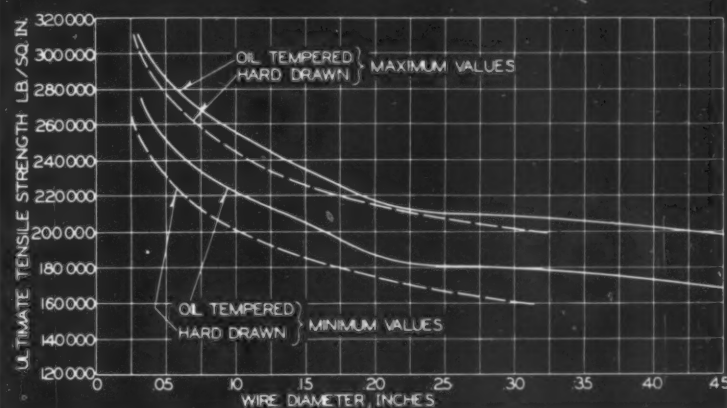

Fig. 2—Ultimate tensile strength for hard-drawn and oil-tempered spring wire
Substituting this value in Equation (5) gives the actual maximum acceleration ratio. Values are plotted in Fig. 2.